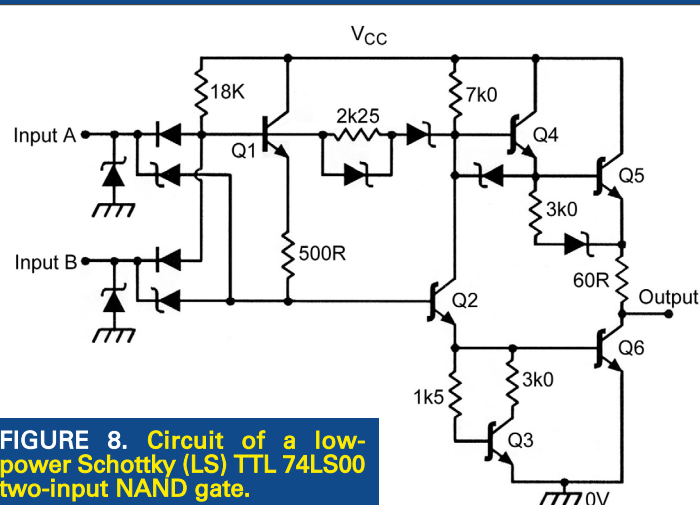

FIGURE 8. Circuit of a low-power Schottky (LS) TTL 74LS00 two-input NAND gate.
Low-Power Schottky (LS) TTL — Low-power Schottky uses a modified form of Schottky technology, using improved manufacturing techniques, combined with a diode-transistor (rather than multi-emitter) form of input network that has a high impedance and gives fast switching. Figure 8 shows the circuit of a 74LS00 two-input NAND gate. Its power consumption is 2 mW and its propagation delay is 8 nS when driving a 12pF/2K load.